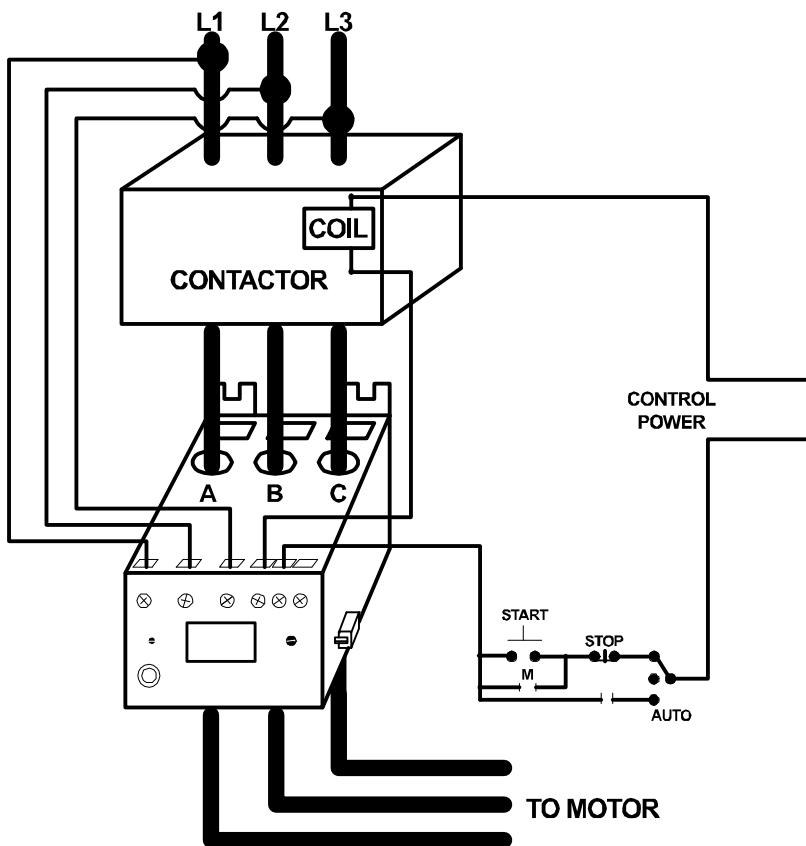

Figure 1: Typical Wiring Diagram
3. a) For amperages from 2.1-9.0 amps, insert the motor conductors through the holes marked A, B, and C. Ensure the motor phase conductors correspond with the round hole designations, i.e. the A phase conductor should go through the round hole marked "A". See Figure 1 for a typical wiring diagram.
5. Connect the control circuit wires to the appropriate terminals. The relay is designed for fail-safe operation; the NO (normally open) contact should be in series with the coil on the contactor for motor control (see Figure 1). For alarm circuits, the NC (normally closed) contact is in series with the alarm circuitry.